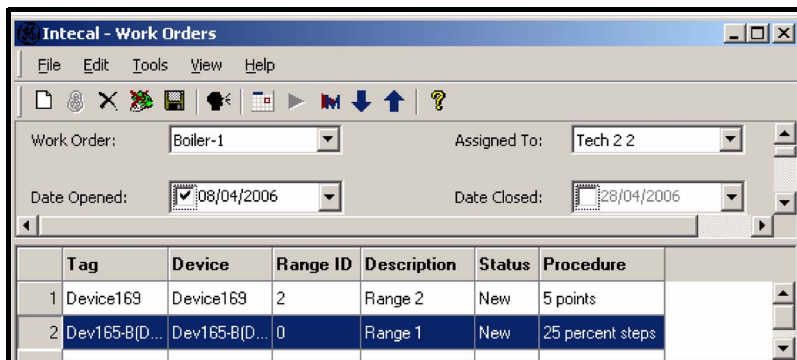

Figure 7-3: Work Order - Manual Data Entry
1. In the *Work Order* window (Figure 7-3), select a *Work Order* from the drop-down list.